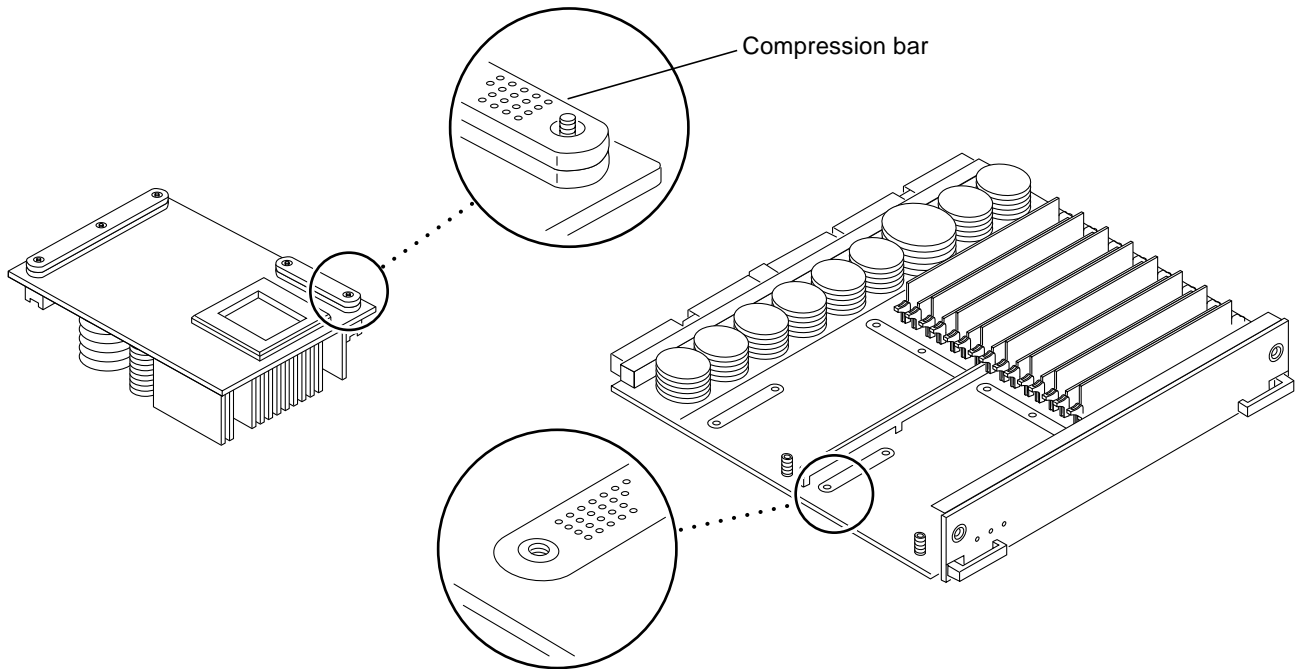
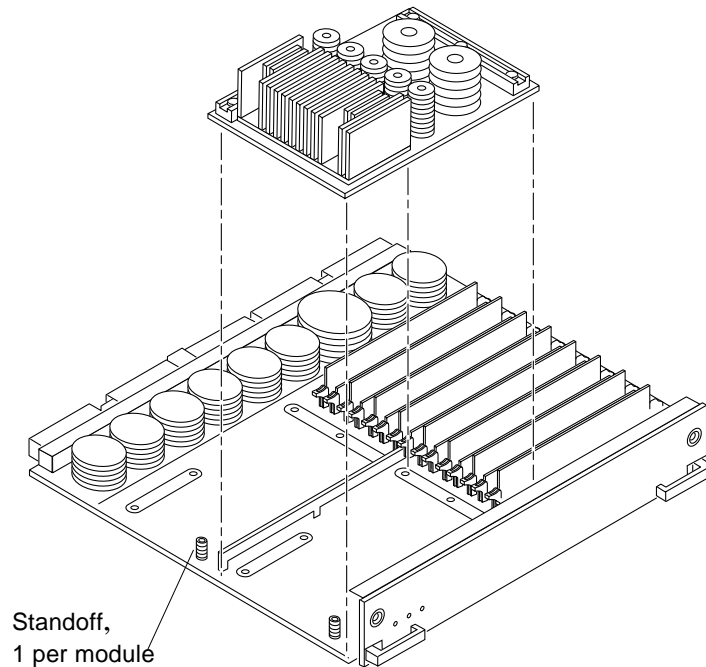

Figure 3-7 UltraSPARC Module Connector Detail
Figure 3-8 UltraSPARC Module Removal and Replacement
Each module is locked to the main board with a single standoff and is connected to the main board by two connectors. The pins within the connectors are compressed to the corresponding board pin receptacles by a metal compression bar which, when secured with screws, compresses the module connector pins to the board receptacle pins. See Figure 3-7.
See Figure 3-8.
4. **Align the module over the two board receptacles using the single standoff as well as the alignment pins located on the module compression connector as a guide. See Figure 3-7 and Figure 3-8.**